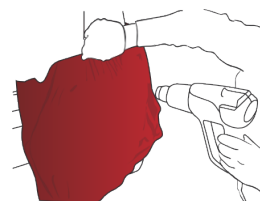

Figure 16
- › After this operation, heat to a temperature ranging from 40 °C to 50 °C (from 104 °F to 122 °F) (from 30 °C to 40 °C (from 86 °F to 104 °F) for the HX45CA890B, HX45CA891B, HX45CA892B (FIG. 16) and stretch to eliminate all folds using the squeegee.